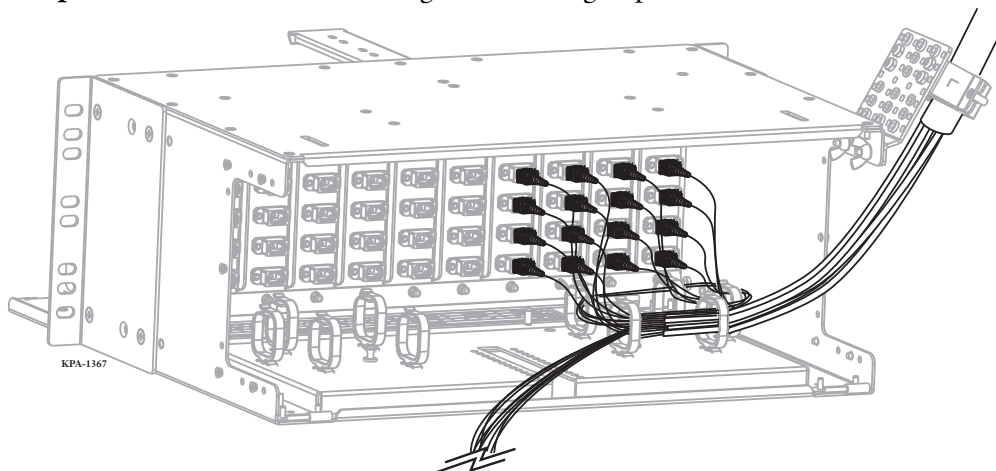

Figure 9 — Preconnectorized Cable Installation and Routing
- Step 3:** Install connectors into the adapters at the rear of the adapter panels (Figure 9).